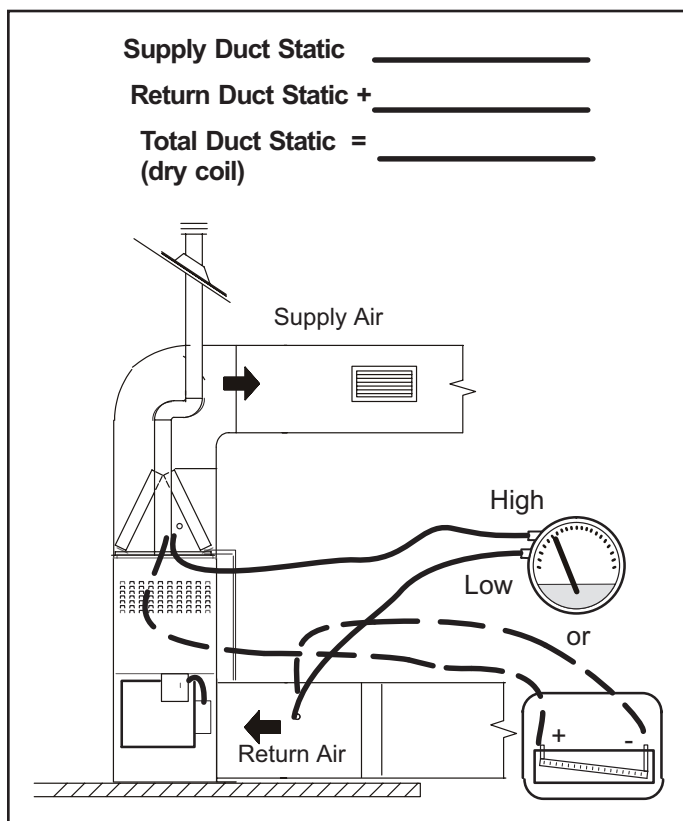

Figure 19. External Static Pressure
1. Tap locations shown in Figure 19.